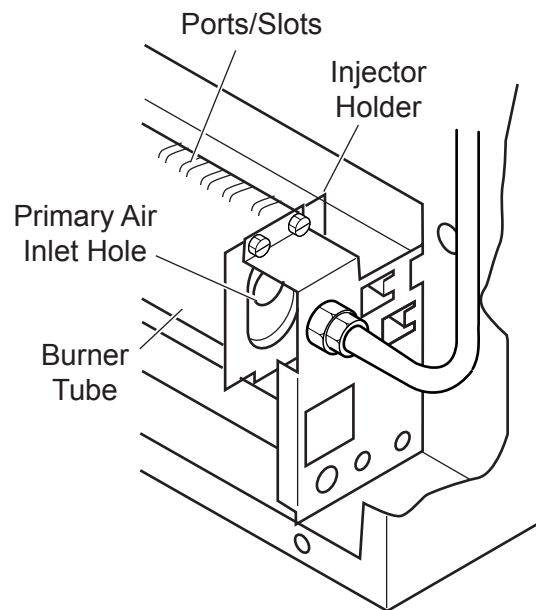

Figure 24 - Injector Holder On Outlet Burner Tube
2. Inspect burner, pilot, and primary air inlet holes on injector holder for dust and dirt (*see Figure 24*).